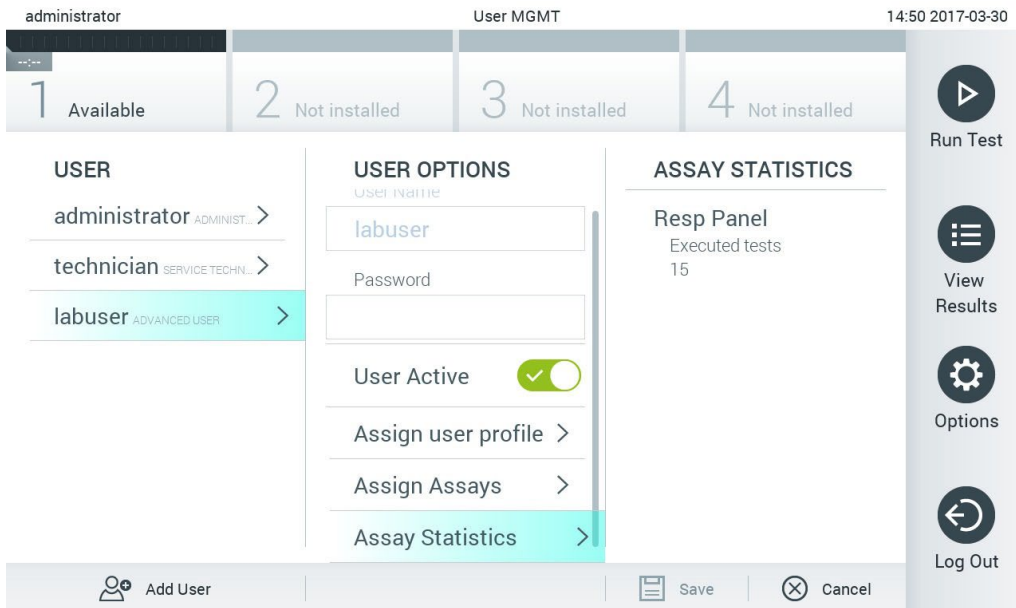

Figure 63. Viewing assay statistics.
**Assay Statistics:** Shows the number of times an assay was run by the selected user (Figure 63).